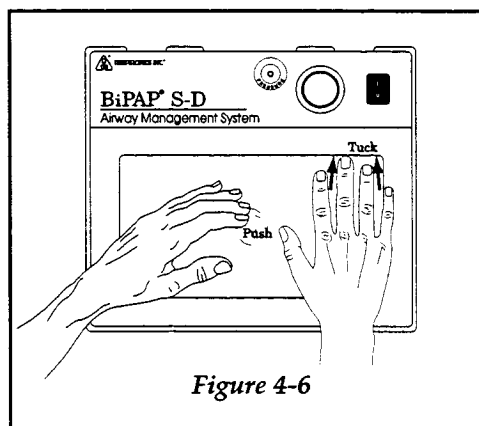

Figure 4-6
- Step 6 Center a new filter over the filter holder. Carefully push in on the center button and tuck the filter in on all four sides as shown in Figure 4-6.